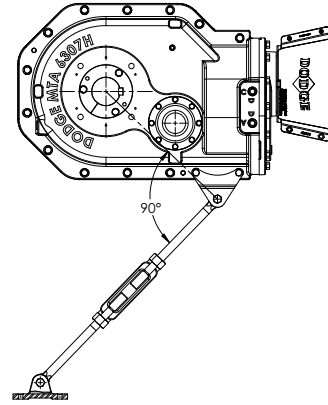

Figure 5 - Tie Rod Mount
5. Install the Torque-Arm fulcrum on a flat and rigid support so that the torque arm will be approximately at right angles to the centerline through the driven shaft and the torque arm anchor screw, as shown in Figure 5.